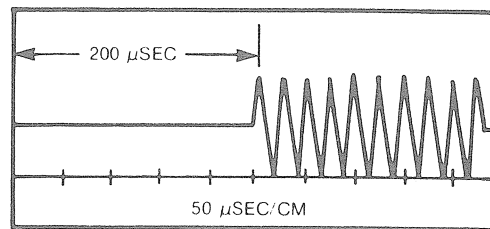

FIGURE 4-12. INDEX SENSING ALIGNMENT WAVEFORM
4. Observe waveform; it should look like waveform in Figure 4-12.